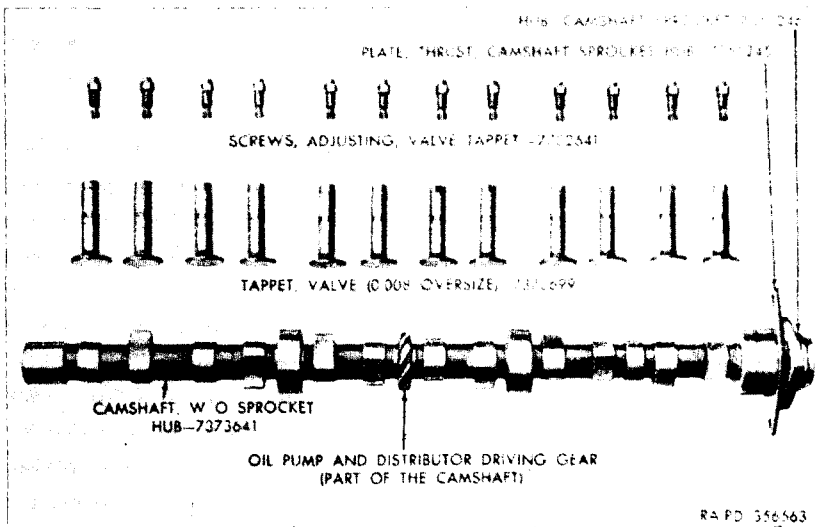

Figure 70. Camshaft and tappets.
i. Inspect Camshaft (fig. 70). Measure each camshaft bearing journal with a micrometer and replace the camshaft if the journals are worn in excess of repair and rebuild standards (par. 65). Examine oil pump and distributor driving gear, and if damaged or worn to any noticeable extent, replace the camshaft. Check bearing clearance and end play (par. 36*m*).